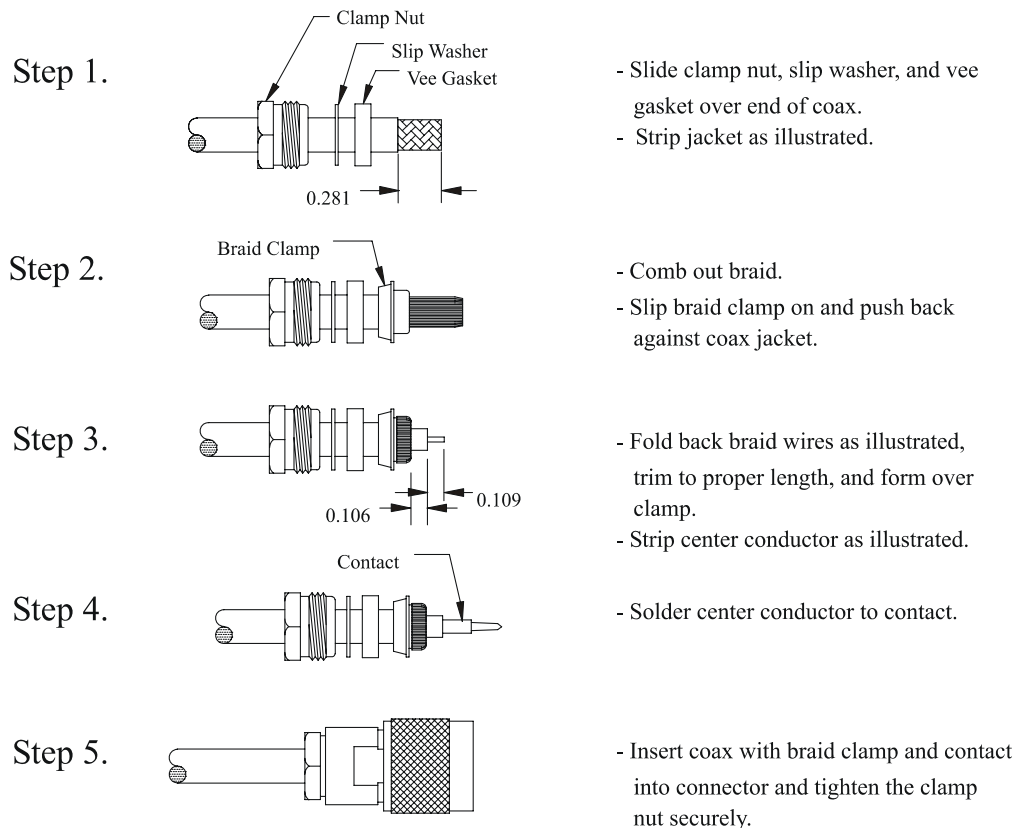

Figure 3-1. TNC Connector Installation
2. Trim the coaxial cable to the desired length and install TNC connectors at each end per the cabling instructions listed in Figure 3-1. For routing convenience, one end of the coaxial run can be terminated prior to installation.